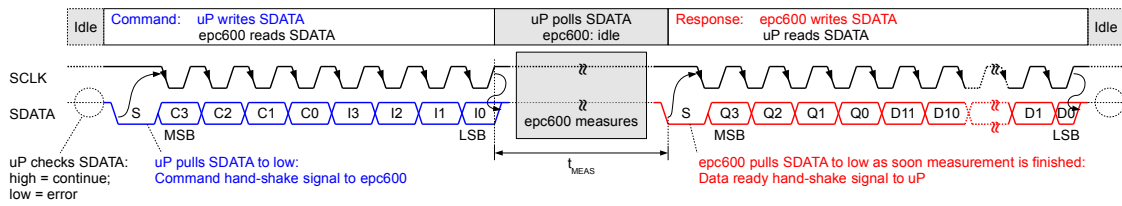
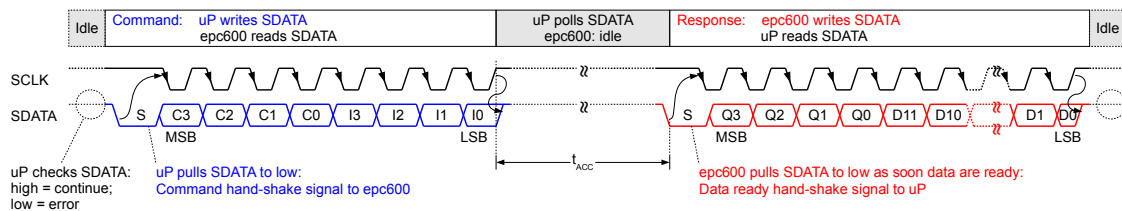

Figure 27: Measurement sequence
Figure 28: Read sequence
- Before and after, the microprocessor performs an access to the epc600, the SDATA line should be checked for an error according to Figure 27. If SDATA is LOW, this indicates an ERROR in communication.
- Before and after, the microprocessor performs an access to the epc600, the SDATA line should be checked for an error according to Figure 28. If SDATA is LOW, this indicates an ERROR in communication.
At the end of the transmission, the microprocessor can check, if the communication was successful: Reads the microprocessor data from SDATA, the line must go to HIGH (IDLE) after the positive edge of the last clock cycle (refer to Figure 27 and Figure 28). Is this not the case, the epc600 chip signals an error status or the interface is faulty. Do not use the received data, because it is uncertain, if the last transmission was successful.